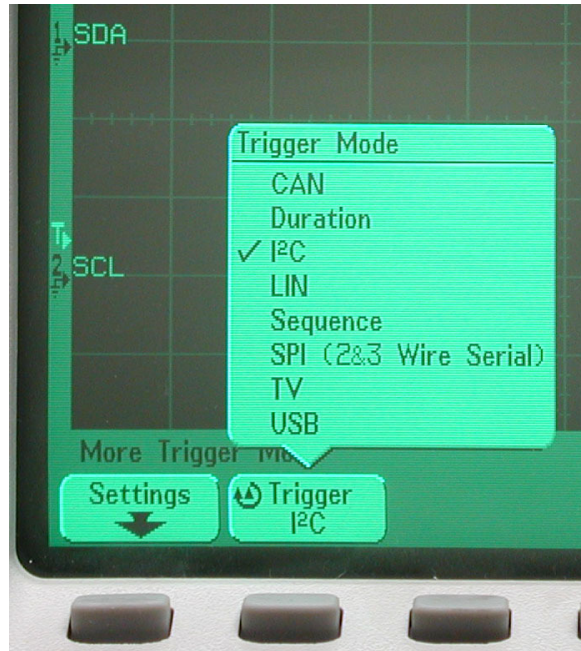

Figure 13: Agilent trigger Mode menu
11. If the label of the second softkey does not say "Trigger I²C", press this button to bring up the trigger mode menu (Fig. 13) and then continue pressing it until the check mark is by I²C.